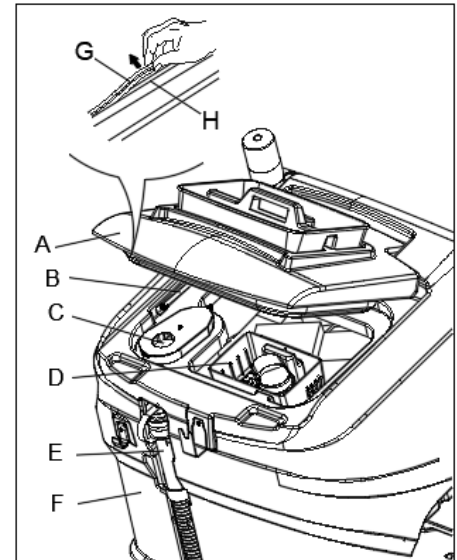

Figure 19
3. Open the recovery tank lid (A, Figure 19) and make sure the support (B) is working.
4. Clean the recovery tank lid (A), recovery tank (F), the vacuum filter (C) and the debris collection box (D). Empty the recovery tank with the drain hose (E).
6. Check whether the contact surface of gasket strip (G) is good condition and sealing is sufficient. If necessary, take the gasket strip of the tank out of the groove (H) and replace it. Assemble the new gasket strip as shown in (Figure 19), the joint should be back in the middle area.
7. Close the recovery tank lid (A).